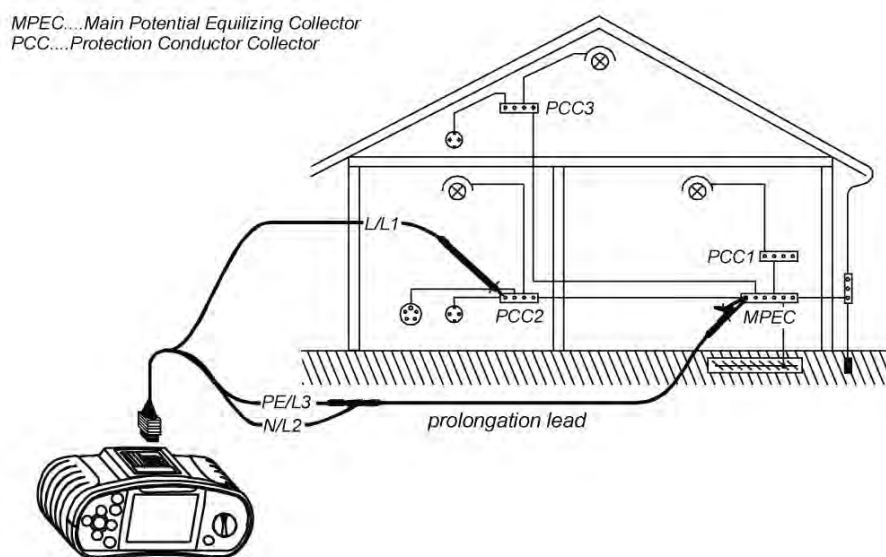

Fig. 5.6: Connection of universal test cable and optional probe test lead (extension)
- Step 4** Connect test cable to the item under test. Follow the connection diagram shown in figures 5.6 and 5.7 to perform **Low Ω resistance** measurement. Use the **Help** function if necessary..